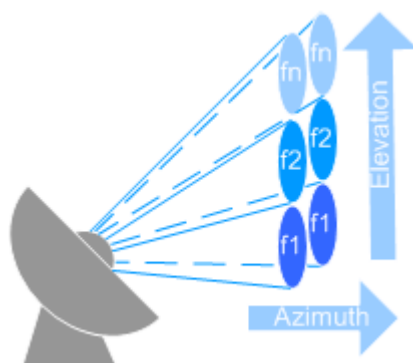

Figure 11-1: Stacked beams (simplified representation)
- "Frequency Offset" Offsets the beam frequency by the selected value, see Figure 11-1.
- "Beam Position Offset" Offsets the beam in terms of an "Elevation" and an "Azimuth", see Figure 11-1.